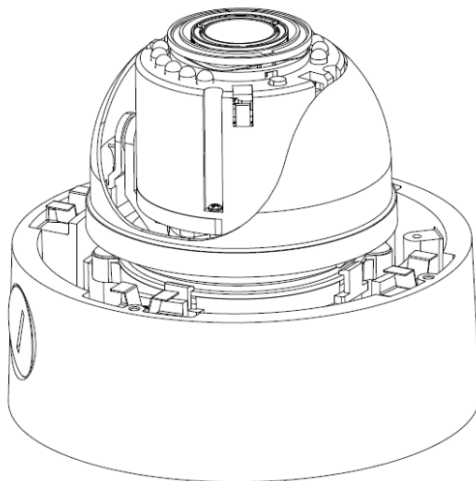

Figure 2
5. Install the shroud back on the camera gimbal as shown in Figure 2.